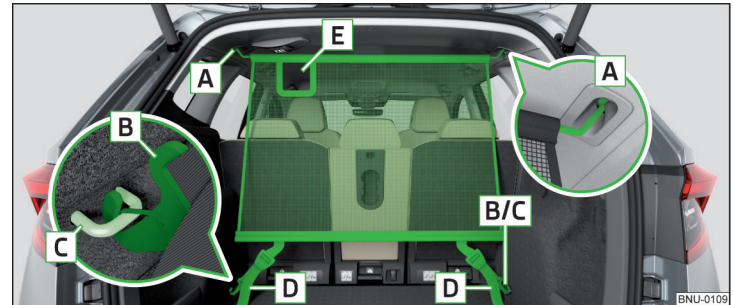

Fig. 148 Net partition behind the rear seats
- › To **install** the cross rod into the mount **A**, first insert it at side and then press it forward. Insert the transverse rod into the mount **A** on the other side of the vehicle in the same way » Fig. 148.
- › Pull the straps at the free ends tightly **D** » Fig. 148.